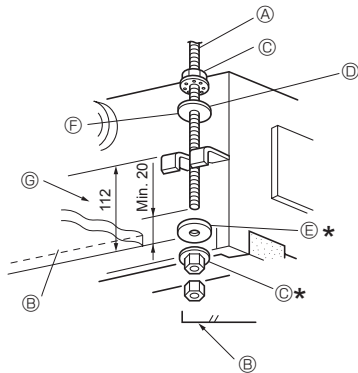

Fig. 2-7
1. Thread washers ① ② (supplied) and their nuts (procured locally) onto the suspension bolt in advance. (Fig. 2-7)
* Do this in the following order (from the top): nut, insulated washer ②, washer without insulation ①, 2 nuts.
* Position insulated washer ② with the insulated surface pointing down, as in the figure.
2. Lift the unit into place, aligned properly with the suspension bolt. Pass the bracket between washers ① and ②, which are already in place, and secure it. Do the same in all four places.